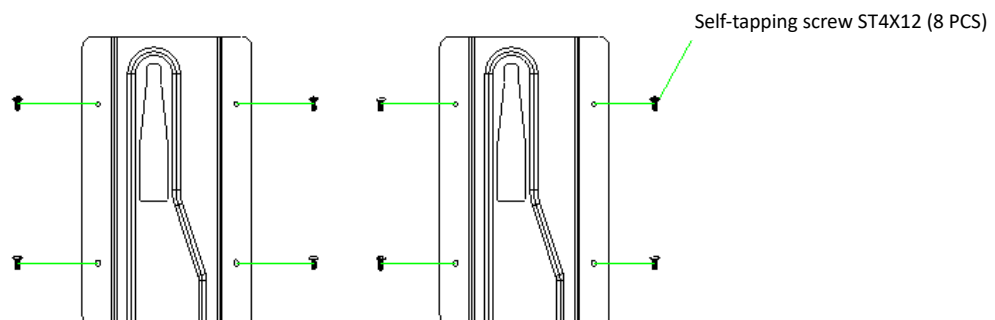

Fig. 2
- d) Installation of supporting seat, as shown in Fig. 2